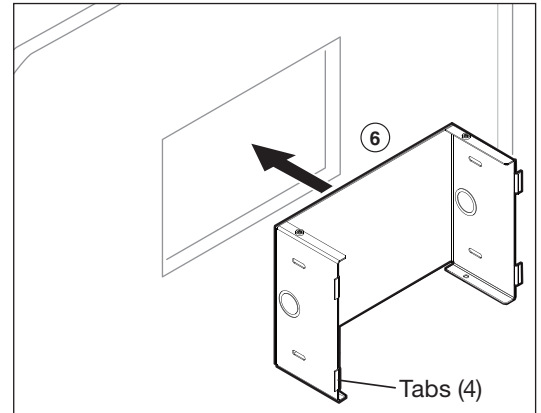

Figure 1
6. Insert the U-plate into the hole (see figure 1).